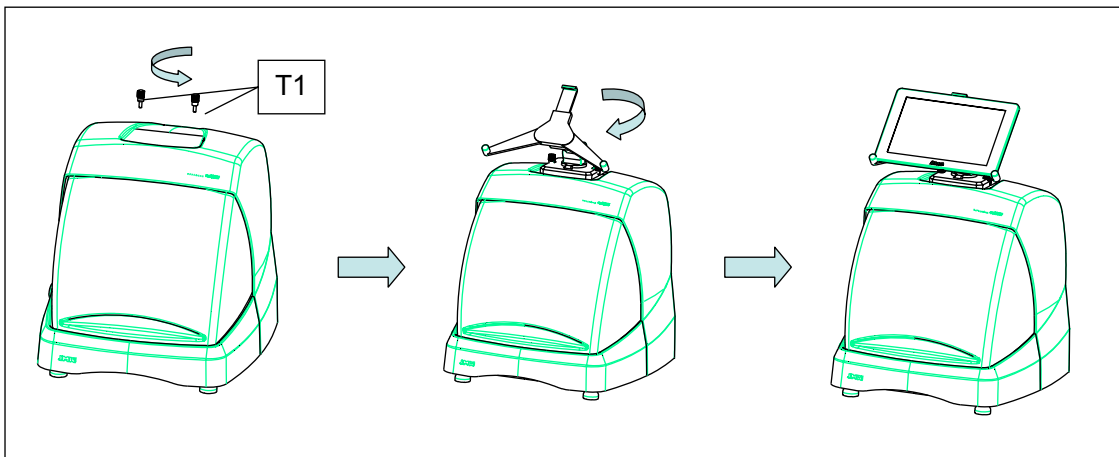

FIG. 3
1. Unthread the knobs (T1) located on the machine. (Fig. 3)